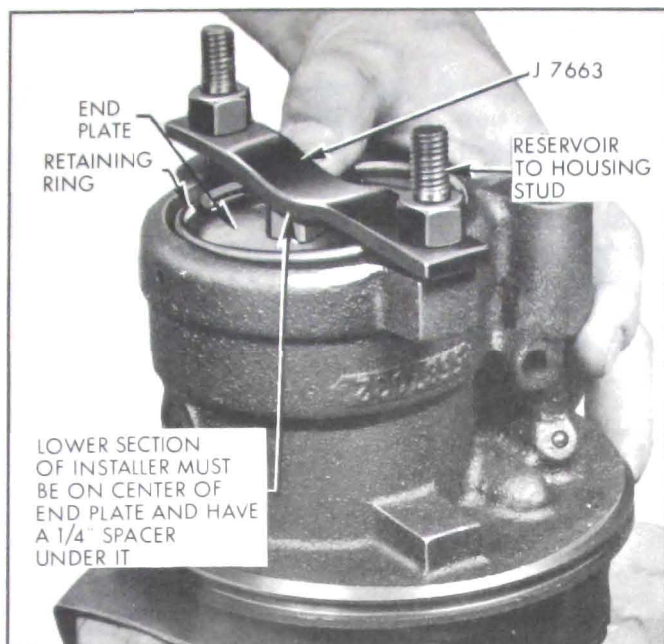

Figure 8-60—Installing Housing End Plate
13. Place end plate retaining ring on top of end plate. Lay a 1/4" spacer on center of end plate, then position Installer J-7663 on end plate so that the depression on it is against the spacer. See Figure 8-60. Attach installer to housing using the reservoir to housing studs with long end of studs threading in housing. Press end plate down by tightening studs until ring groove in housing is evenly exposed. Install retaining ring. Be sure ring is completely seated in housing groove and end plate is aligned properly. Remove studs.